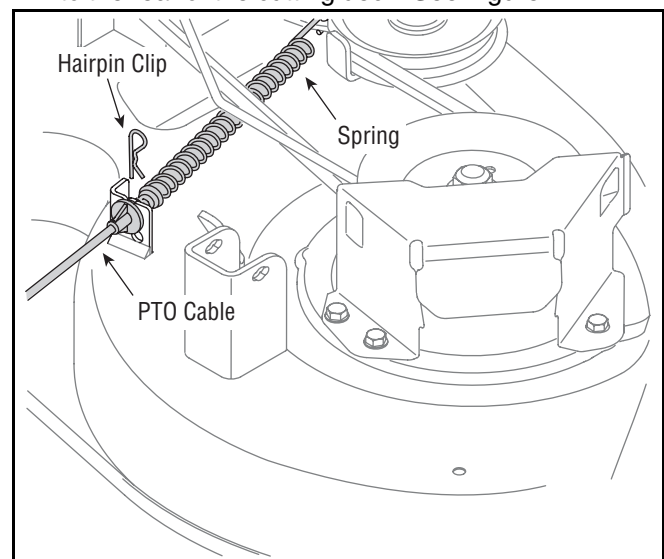

Figure 24
3. Remove the hairpin clip that secures the PTO cable to the rear of the cutting deck. See Figure 24.